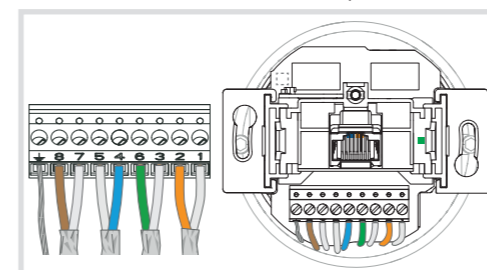

Figure 5
- Mount terminal block onto the contact pins (3) (Figure 5).